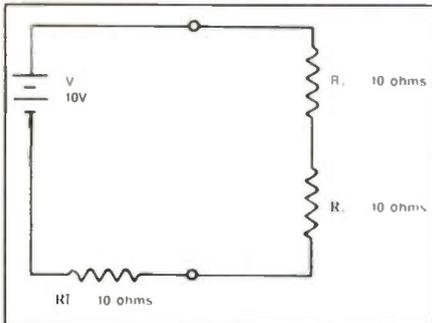

Figure 1.
5. In the circuit of Figure 1, what value of R_1 will allow it to receive maximum power?